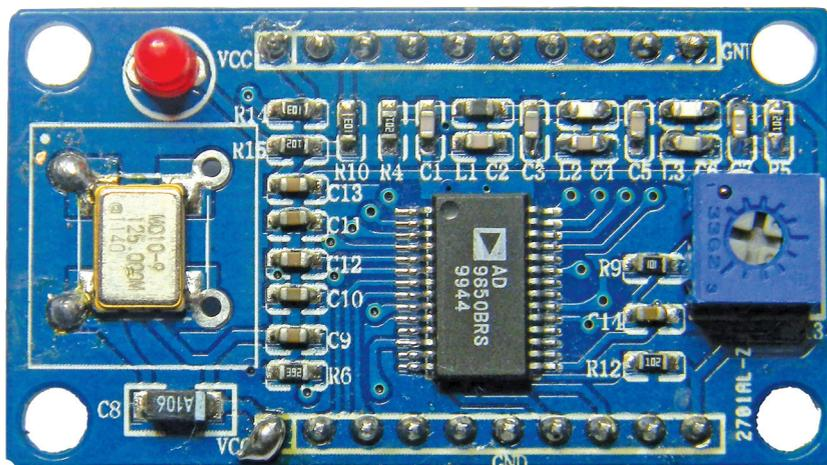

Figure 1 — The DDS module.
Output from the input band-pass filter feeds the RF input of an SRA-1 or SBL-1 double-balanced diode mixer. This type of mixer does not overload easily. Local oscillator RF from the DDS module (see Figure 1) is fed to the local oscillator (LO) input of the mixer. The LO frequency is 9 MHz above the desired receive frequency. For example, tuning to 7150 kHz requires an LO frequency of 16,150 kHz.